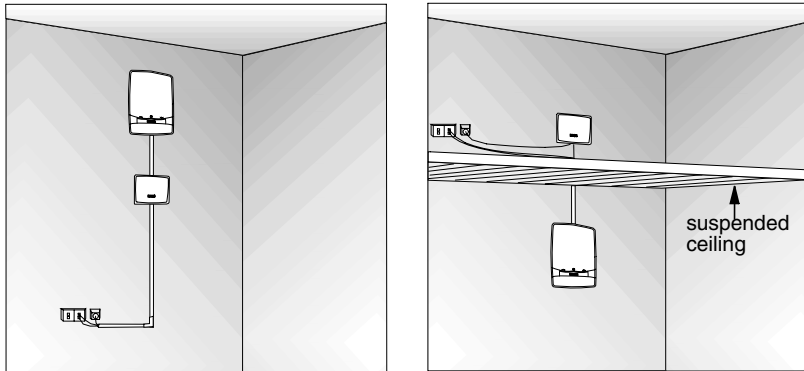

Figure 16. Connecting Nokia InSite Base Station to the mains outlet
10. Connect the transmission cables. See Figure 16.
11. Connect the power supply unit to the mains outlet with the AC cable. See Figure 16.